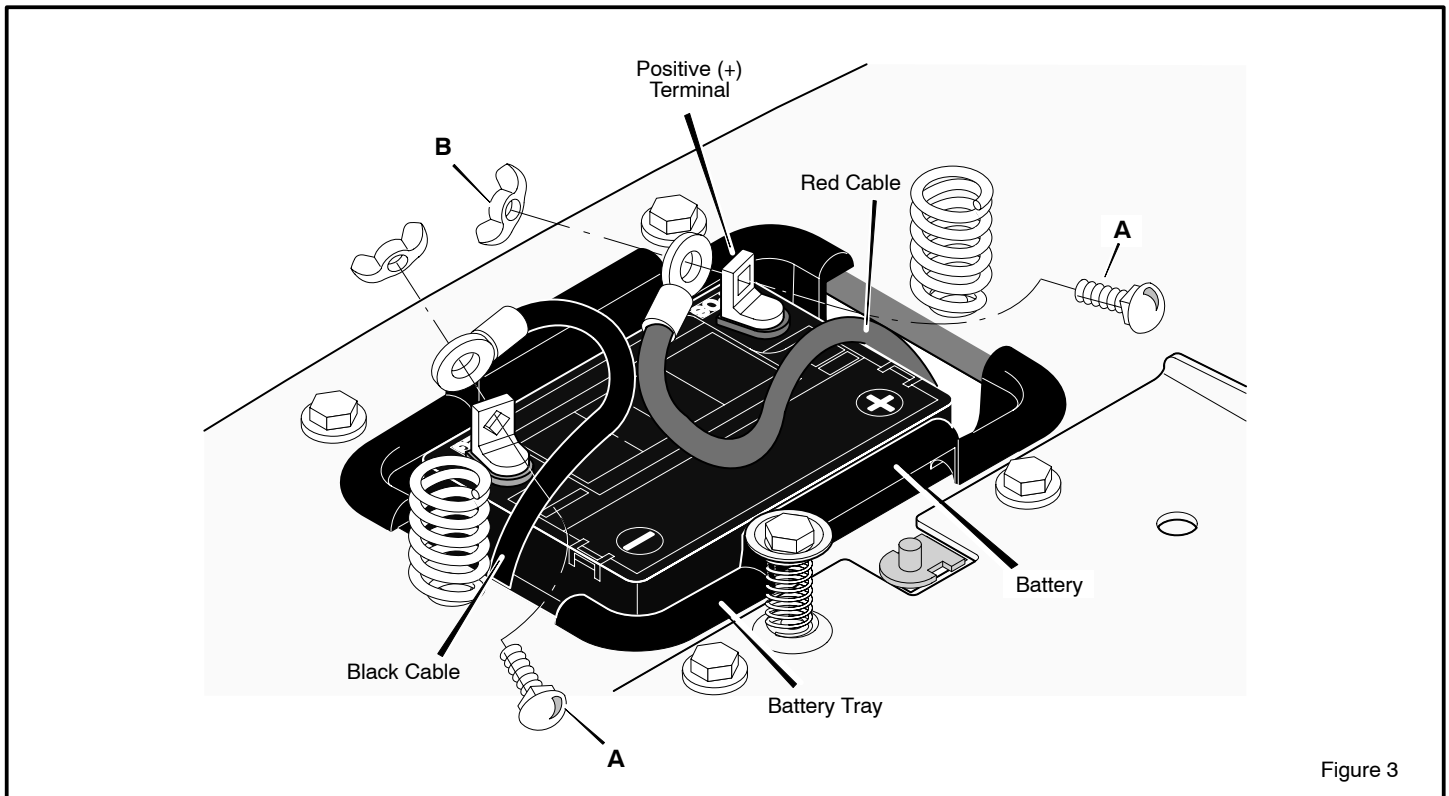

Figure 3
1. Check the top and the side of the battery for the location of the **battery date** (Figure 3).
2. Fasten the **red cable** to the **positive (+) terminal** with the fasteners as shown (Figure 3).